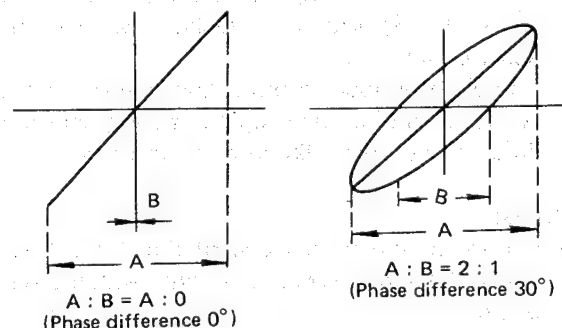

Figure 26
4. Adjust the azimuth adjustment screws ③ (3P+8S) so that the outputs of CH-1 and CH-2 becomes maximum and the phase difference within 30°. (Refer to figure 26.)